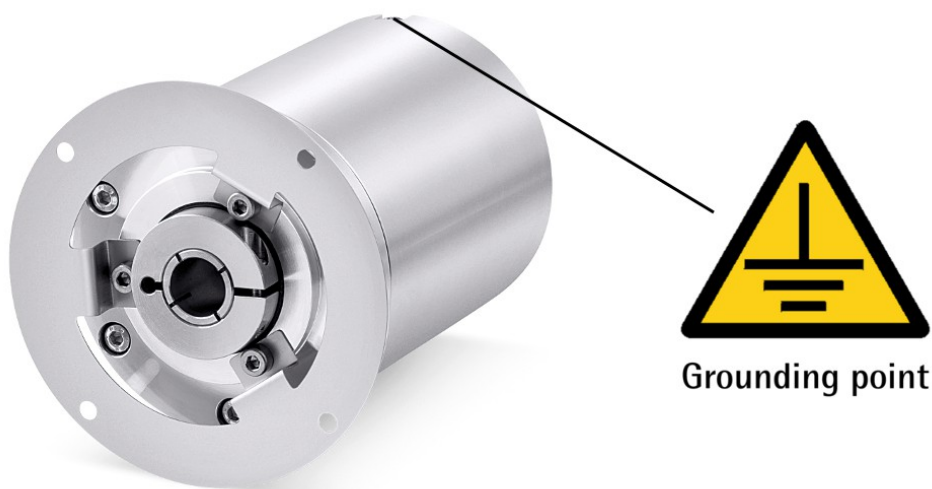

Figure 2 - Electrical connection and grounding point
6.1 PWR power supply and Ethernet connection (Figure 2)
To minimize noise connect properly the shield and/or the connector housing and/or the frame to ground. Connect properly the cable shield to ground on user's side. Make sure that ground is not affected by noise. It is recommended to provide the ground connection as close as possible to the device. We suggest using the ground point provided in the enclosure (see Figure 1 and Figure 2).